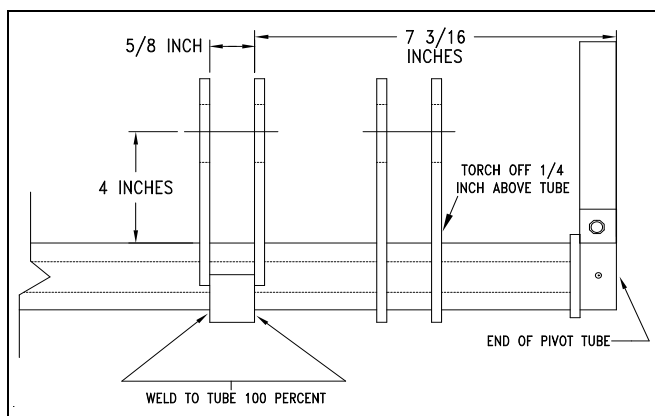

Figure 2
- c. Weld the mount collar (6) and double ears (7) on the pivot tube (8) so you can pin the link arm to the ears. Use the link arm as a guide to properly position the collar and ears on the tube. Refer to Figure 2 for general dimensions.
- e. Remove existing opener-lift arm (9) by torching off the double ears (10). Cut the ears 1/4 inch above the pivot tube. Disassemble the existing opener-shaft clamp. Discard all disassembled parts.